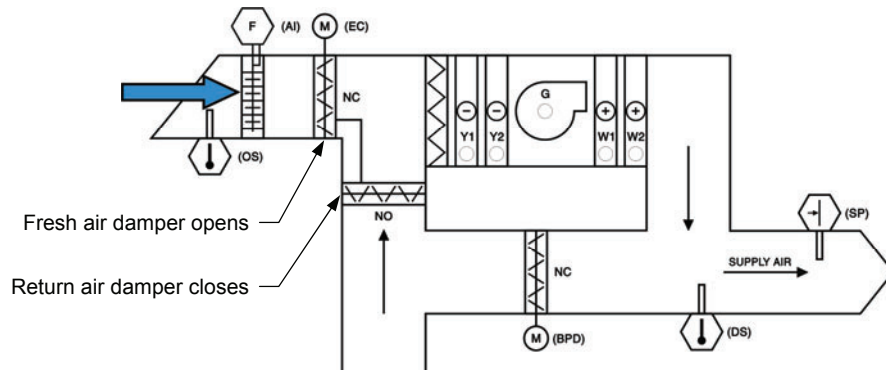

Figure 40. Free cooling.
- opening a damper that lets some cool air from outside enter as shown in Figure 40.